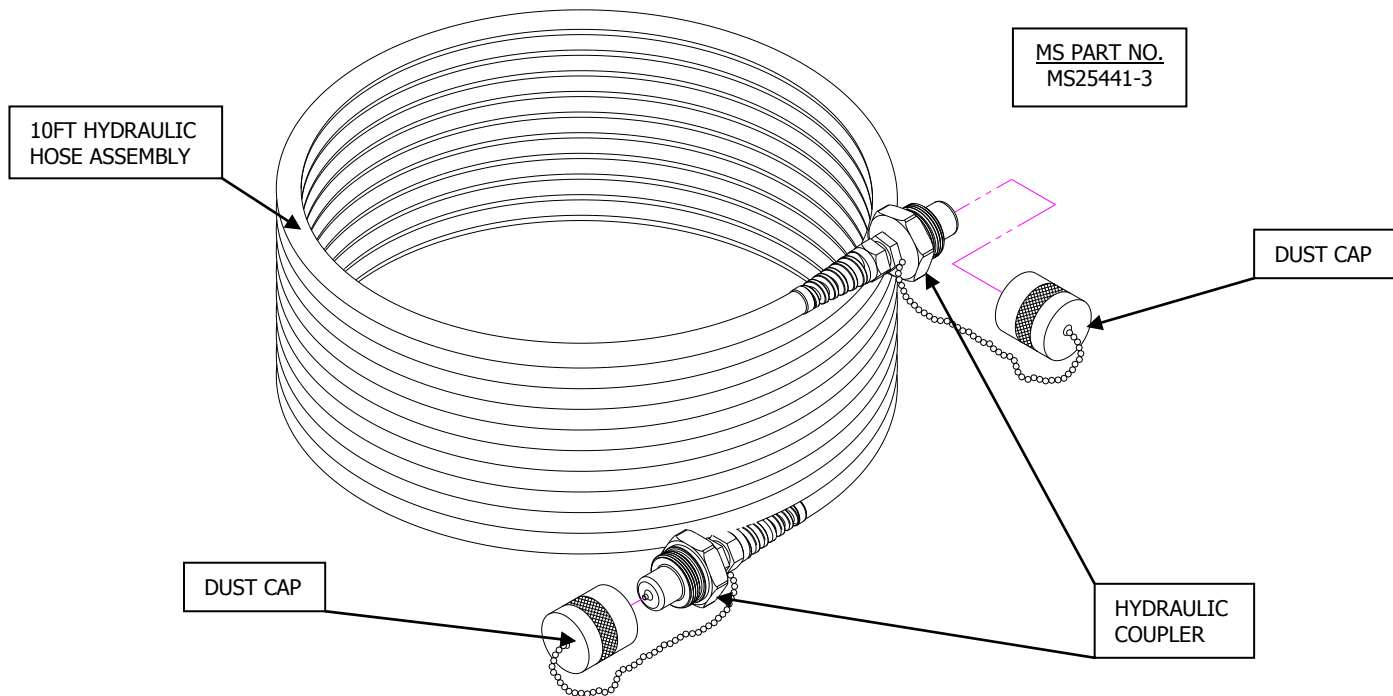

FIGURE 2
5. The assembled unit can now be turned back over, as shown in the lower views of Figure 2, and mounted to a work surface.